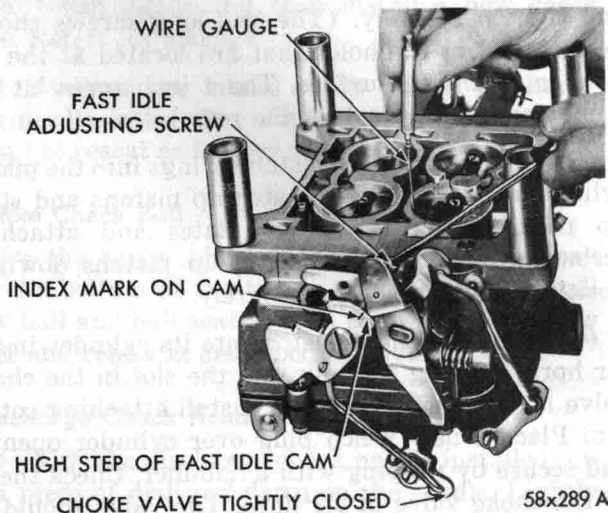

Fig. 69—Checking Fast Idle Adjustment
(1) With the choke valve held tightly closed and carburetor inverted, tighten the fast idle adjusting screw (on the high step of the fast idle cam) until wire gauge Tool T109-29 (.020 inch) can be inserted between the primary throttle valve and the bore (side opposite idle port), as shown in Figure 69. The index mark on the fast idle cam should be in direct line with the fast idle screw shank.